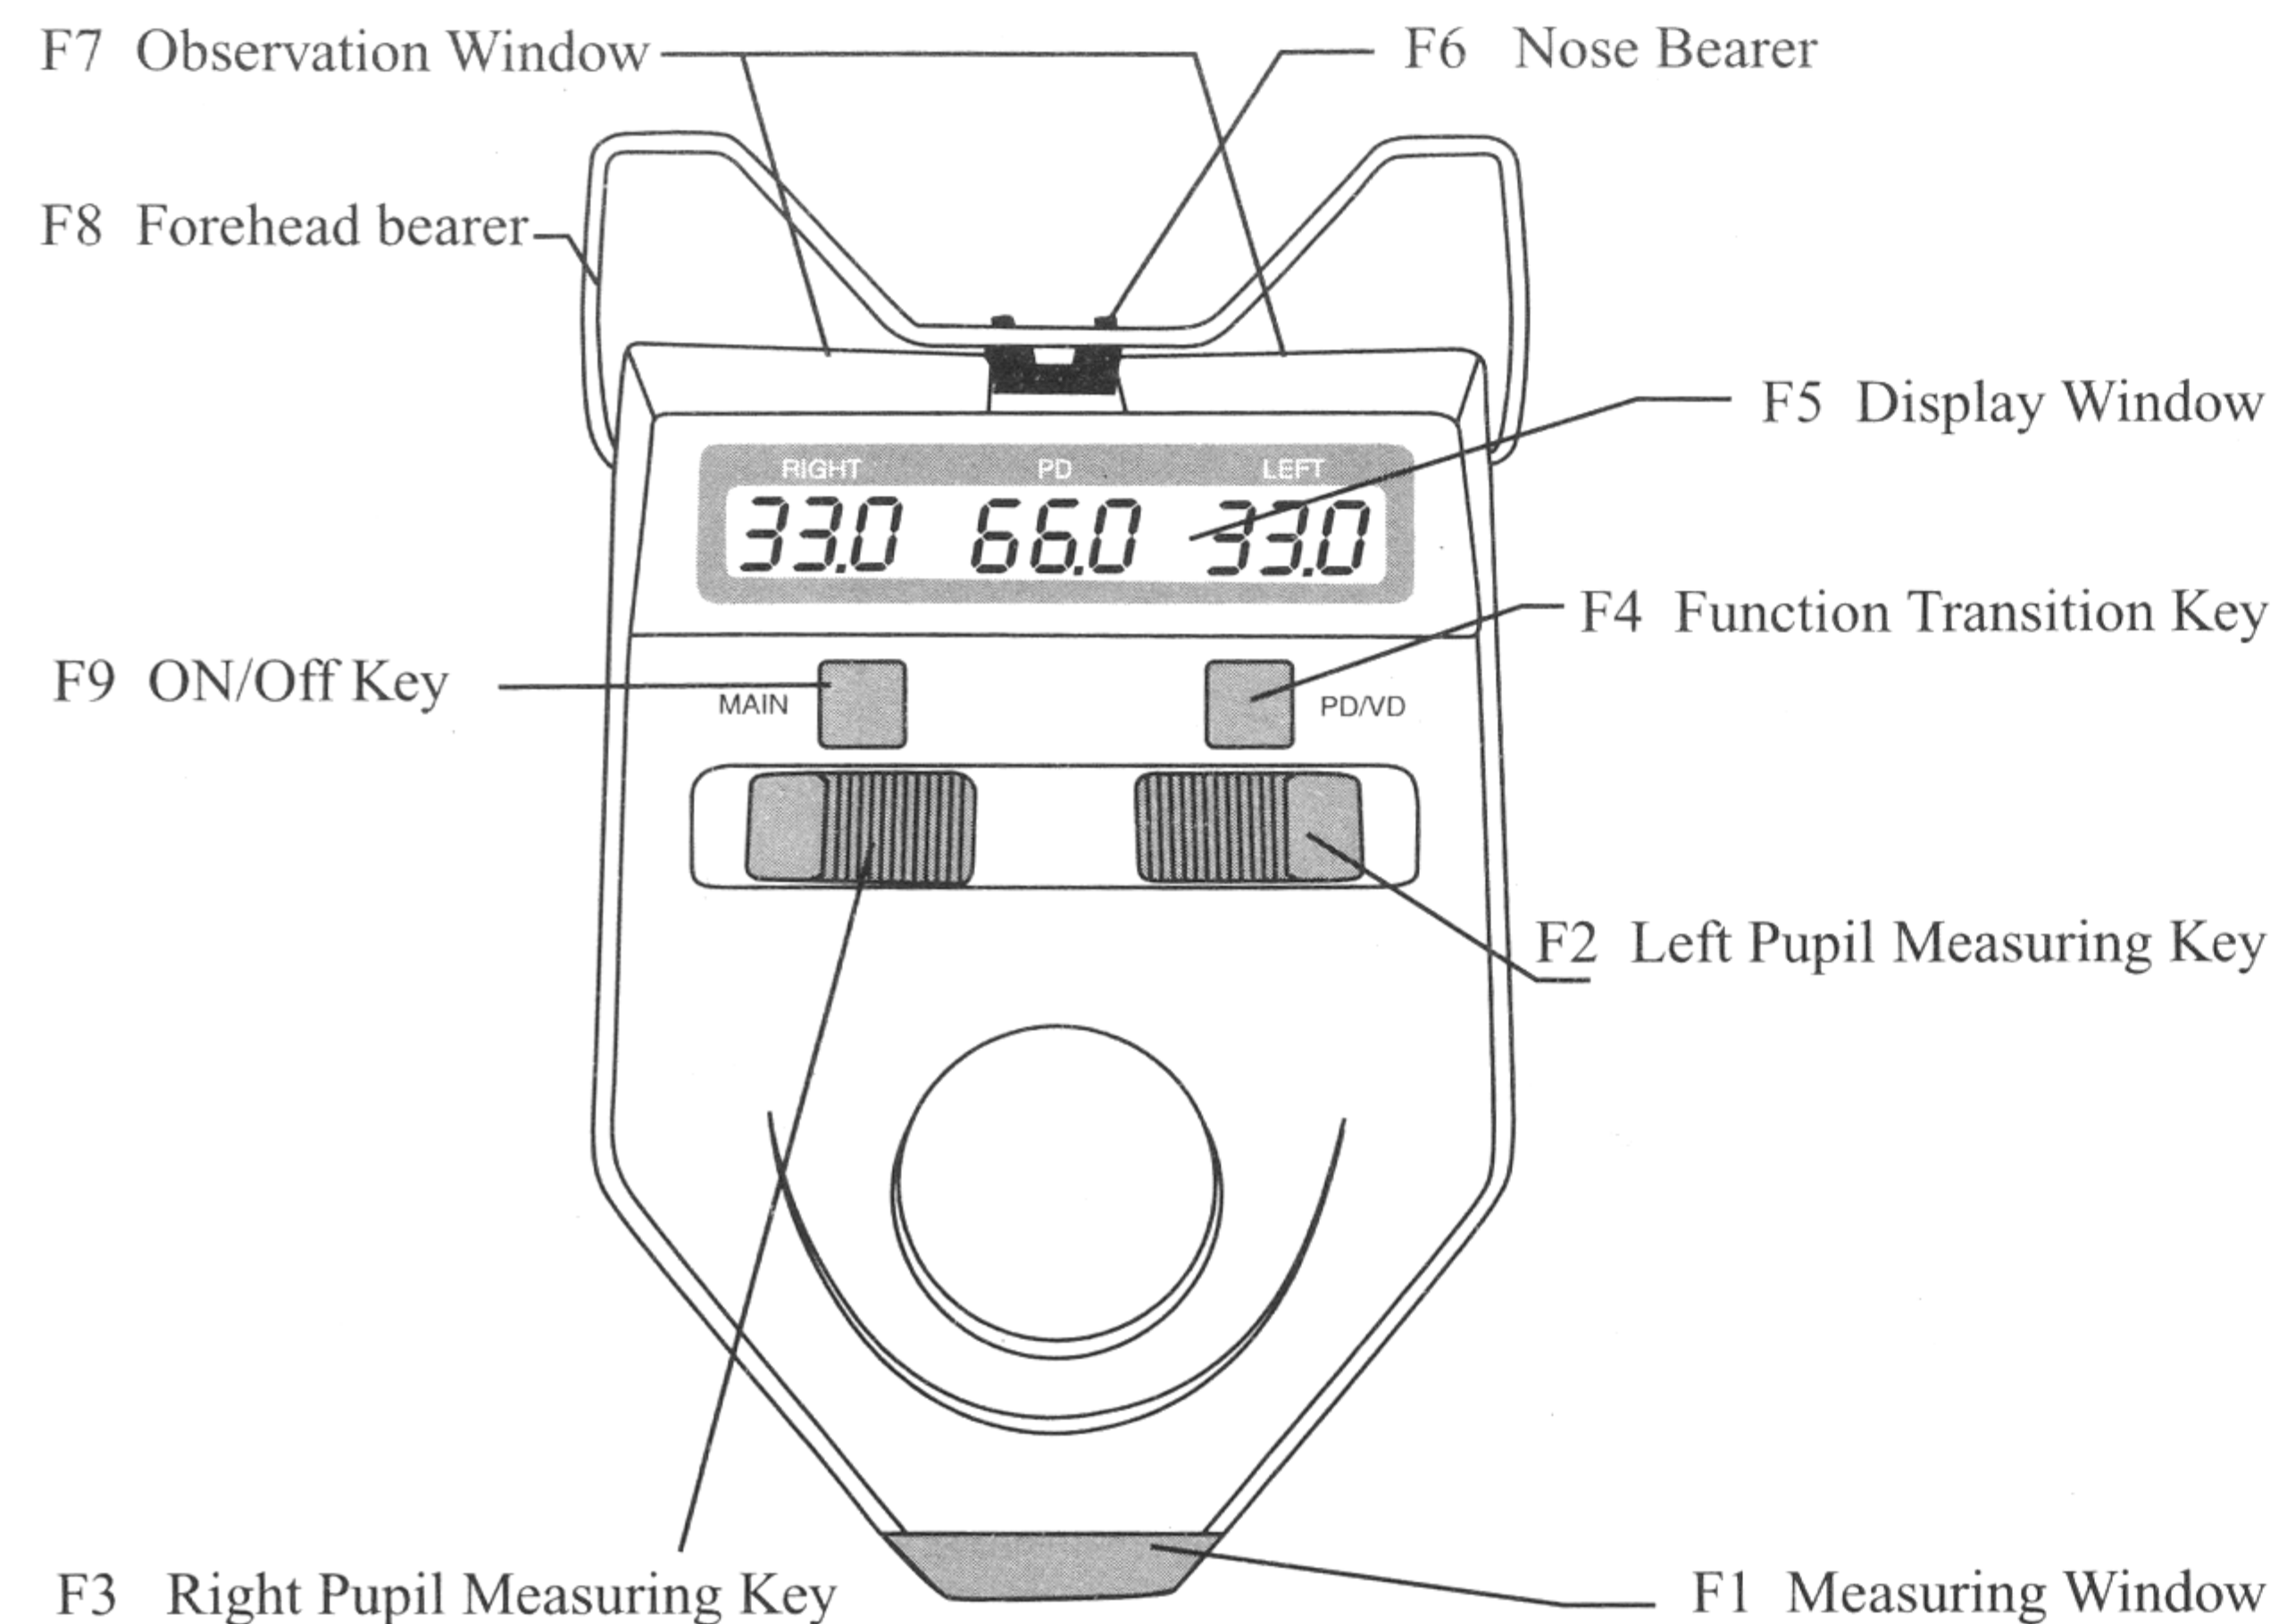

Fig.1
3.1 Description of the Front Panel (as shown in Fig.1)